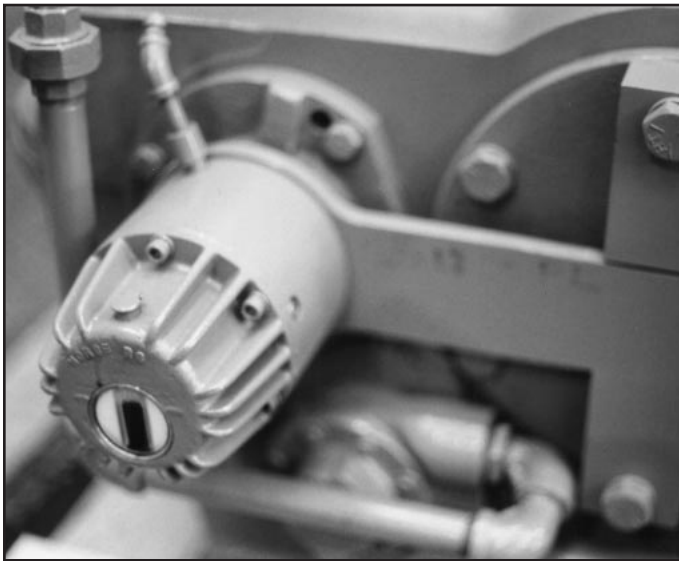

Fig. 6
2. Clean off all sealant from the shaft surfaces as well as the key, keyways and backstop bore. Flush out backstop with Mobil Oil Solvolosol or equivalent. Do not use Carbon Tetrachloride. Clean the breather also with the same solvent. (See Fig. 6)